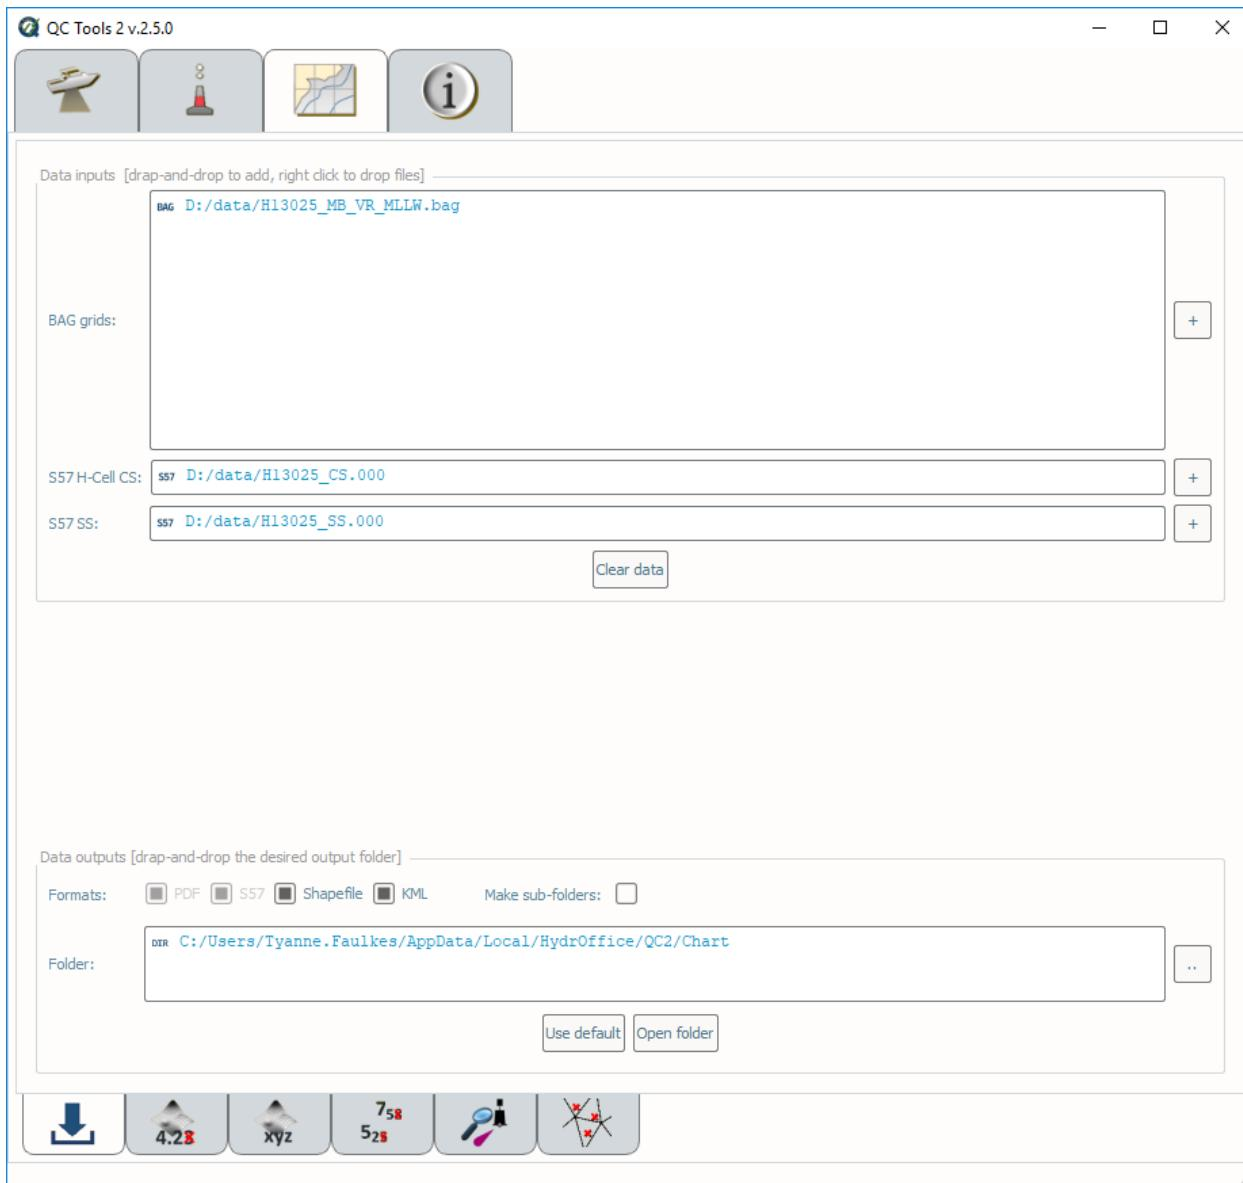

Fig. 2.58: Chart review tab.
- With the addition of a grid, feature file, and survey sounding selections, the **Grid truncate**, **Grid xyz**, **S57 truncate**, **Triangle Rule**, and/or **Scan Features** tabs on the bottom of the interface will become available (Fig. 2.58).